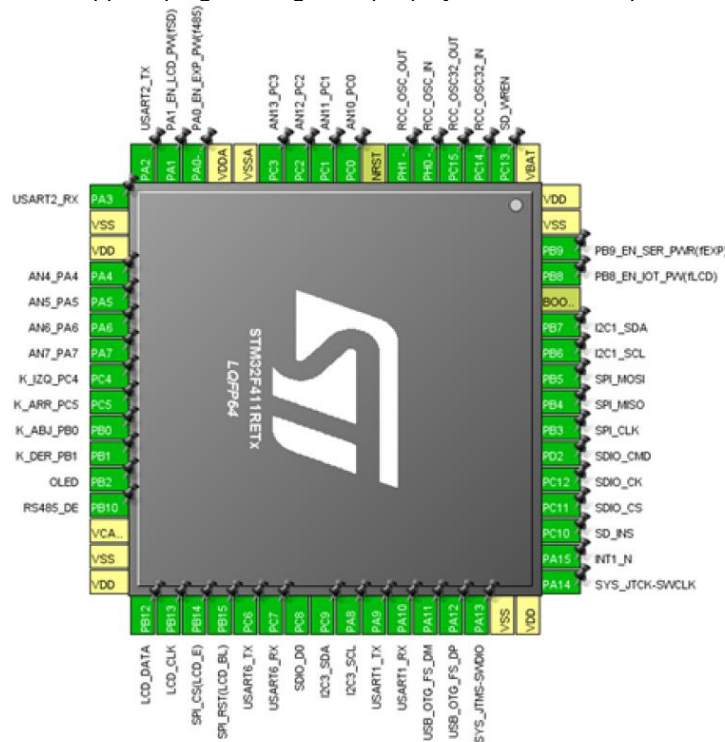

Figure 3 – Low-level configuration of the STM32F411RET unit using CubeMX32.
2.b Programming model: The STM32 controller on CL3 can be programmed in C or C++ using compatible cross-compilers. The examples in Section 3 will use either STM32CubeIDE [ref01], available for Windows, MacOS and Linux, or the older STM32 AC6 System Workbench [ref07] with integrated debuggers. To ease end-user development, a higher-level sAPI-3C firmware library written in C (Section 3) is offered and integrated into the example projects, the simplest ones using bare-metal infinite loops and a more complex example running FreeRTOS, in communication with an external METEO peripheral. Programs are cross-compiled on a standard PC and downloaded to the board via a standard STLink/v2 4-pin port using a low cost USB STLink/v2 interface [ref03]. This interface also serves as OpenOCD debugger to ease developer work. ST thus offers a completely free toolchain using the arm-gcc cross compiler / linker and associated tools integrated in a user-friendly IDE.
The CL3 internal peripheral and basic modules are routed and preconfigured in the examples using the CubeMX32 [ref08] graphical tool provided by ST but can be user-altered if required. In Figure 3 the layout of pins and peripherals for the CL3 board is shown. The CubeMX32 is provided as a separate tool but was recently (2019) integrated within the STM32CubeIDE. The configuration files (.ioc) are part of the supplied programming example projects and are adapted to the CL3 schematic of [ref03].